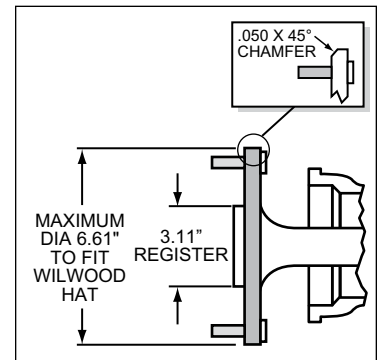

Figure 3. Axle Flange Maximum Dimension
- Axle center registration diameter is 3.11", Figure 3.
- Maximum axle flange diameter must be no larger than 6.61" w/.050" x 45° chamfer (see Figure 3).